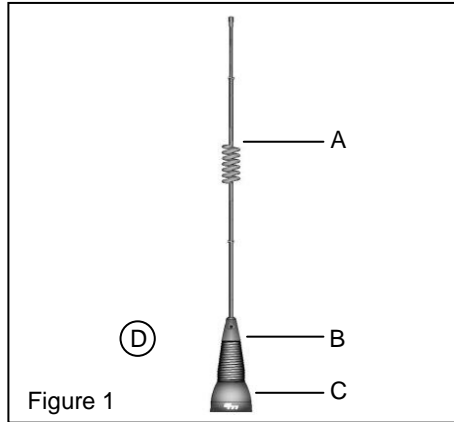

Figure 1
1. Parts (Figure 1):
Verify all parts are included with the Antenna as shown in Figure 1.